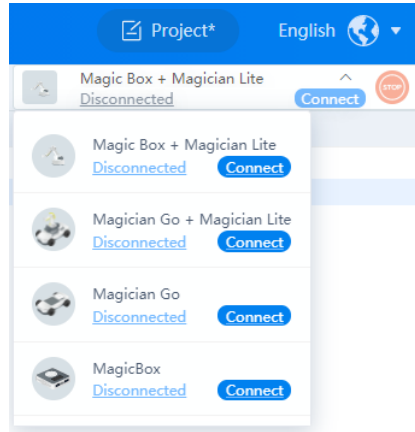

Figure 4.25 Device connection
- Step 2** Click the drop-down list of device connection panel, as shown in Figure 4.25. Choose corresponding device and click **Connect** button.